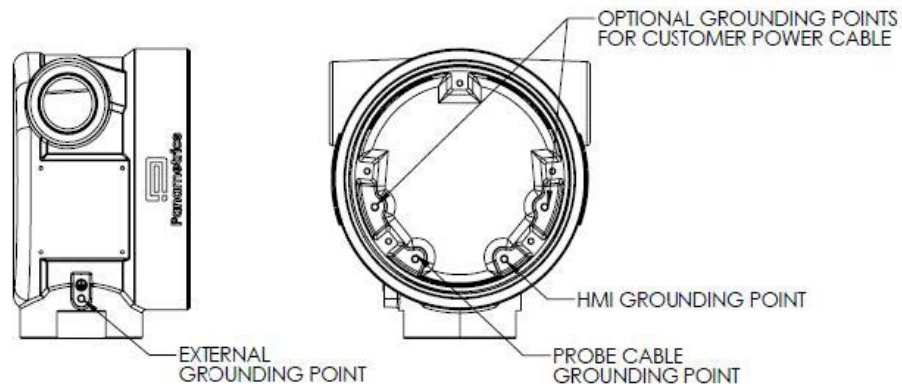

Figure 12: HygroPro XP Grounding Diagram
Step 5: Feed power supply (wired per section 1.4 "Wiring the Transmitter") through cable entry on enclosure. Make connection with back of the main board. If required, fasten earthing wire of power cable to grounding point specified in Figure 12 "HygroPro XP Grounding Diagram".
Figure 12 shows the grounding points on the enclosure, both internal and external, which should be followed in all wiring setups.
WARNING! Proper grounding of the HygroPro XP enclosure via the external grounding screw on the enclosure (see Figure 12) is required to prevent the possibility of electric shock. All ground screws should be hand tightened only, to 10in-lbs.